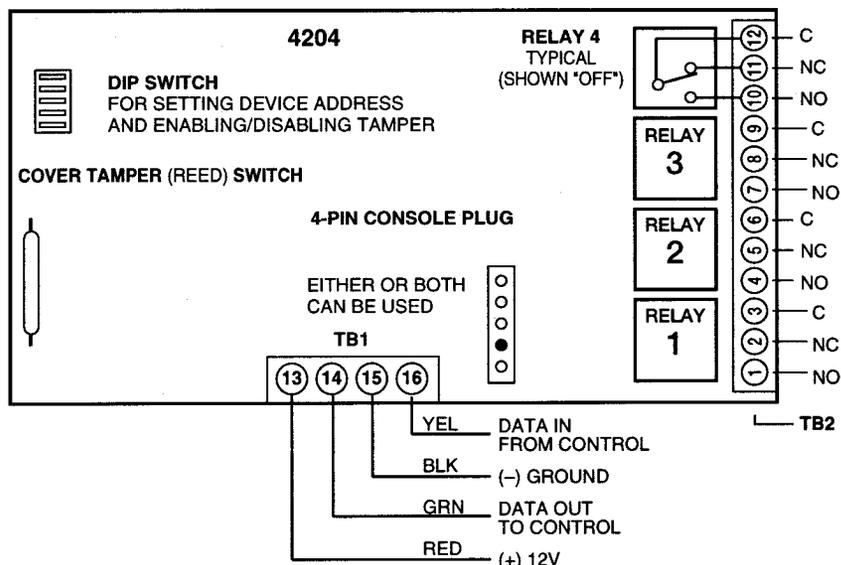

Figure 10. 4204 Connections to Control
3. **Connect the desired field wiring to the unit's relay contact terminals.** See Figures 10 and 11.